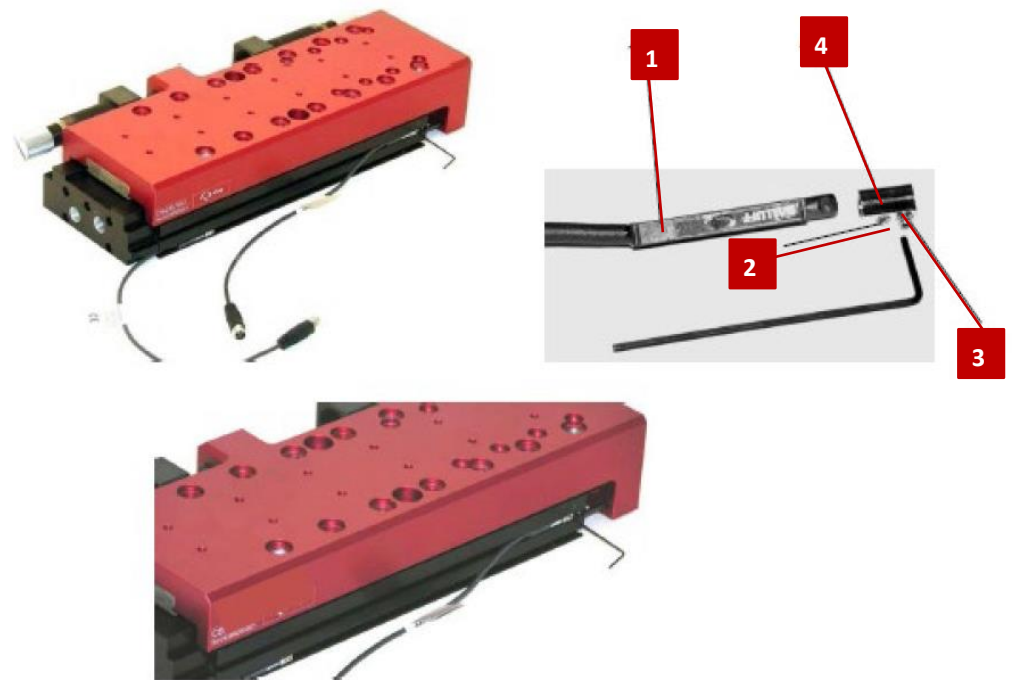

Fig. 11 Installation and adjustment of the compact slide
1. Insert the proximity switch (Fig. 11, 1) with the mounted clamping piece into the C-slot.
2. Fasten the proximity switch in the C-slot with the fastening screws on the clamping piece (Fig. 11, 3).